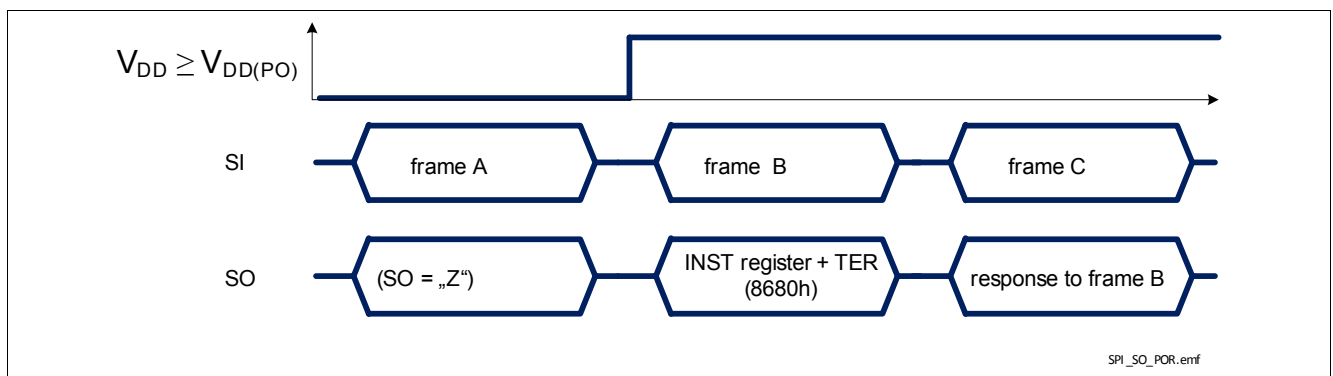

Figure 30 TLE75008-EMD response after coming out of Power-On reset at V_{DD}
- when TLE75008-EMD logic supply comes out of Power-On reset condition or after a Software Reset, as shown in Figure 30